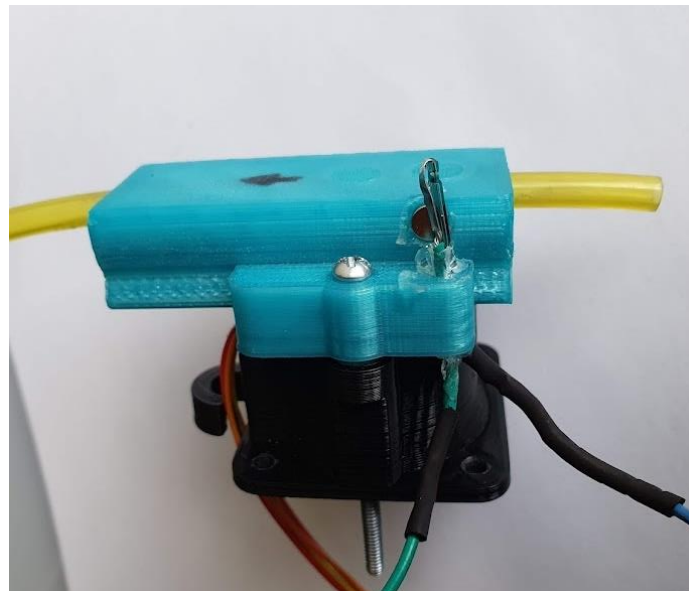

Figure 33- Rack Attached to the Base of the Arm
16. Slide the zipper to the joint at the base of the arm (Figure 33)